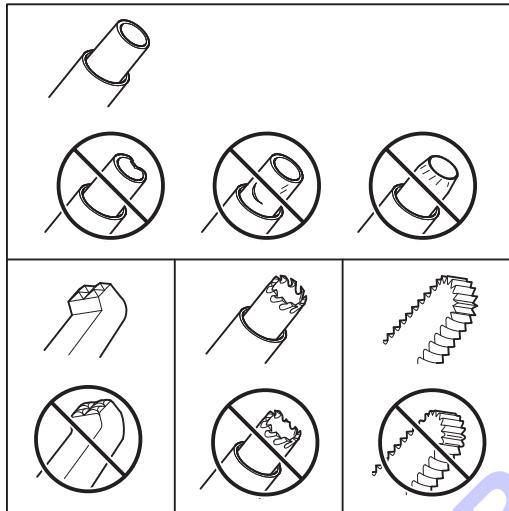

Figure 107 – Tip Damage
- Inspect the tip and sleeve set for damage or signs of wear (Figure 107). DO NOT use a damaged or worn tip or tip sleeve during a procedure.